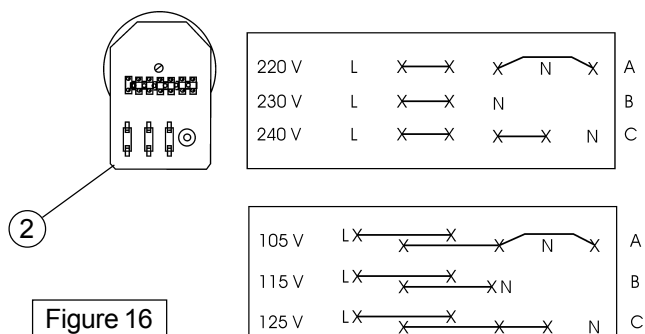

Figure 16
3. Check the transformer (2) tapping for the correct configuration, figure 16.